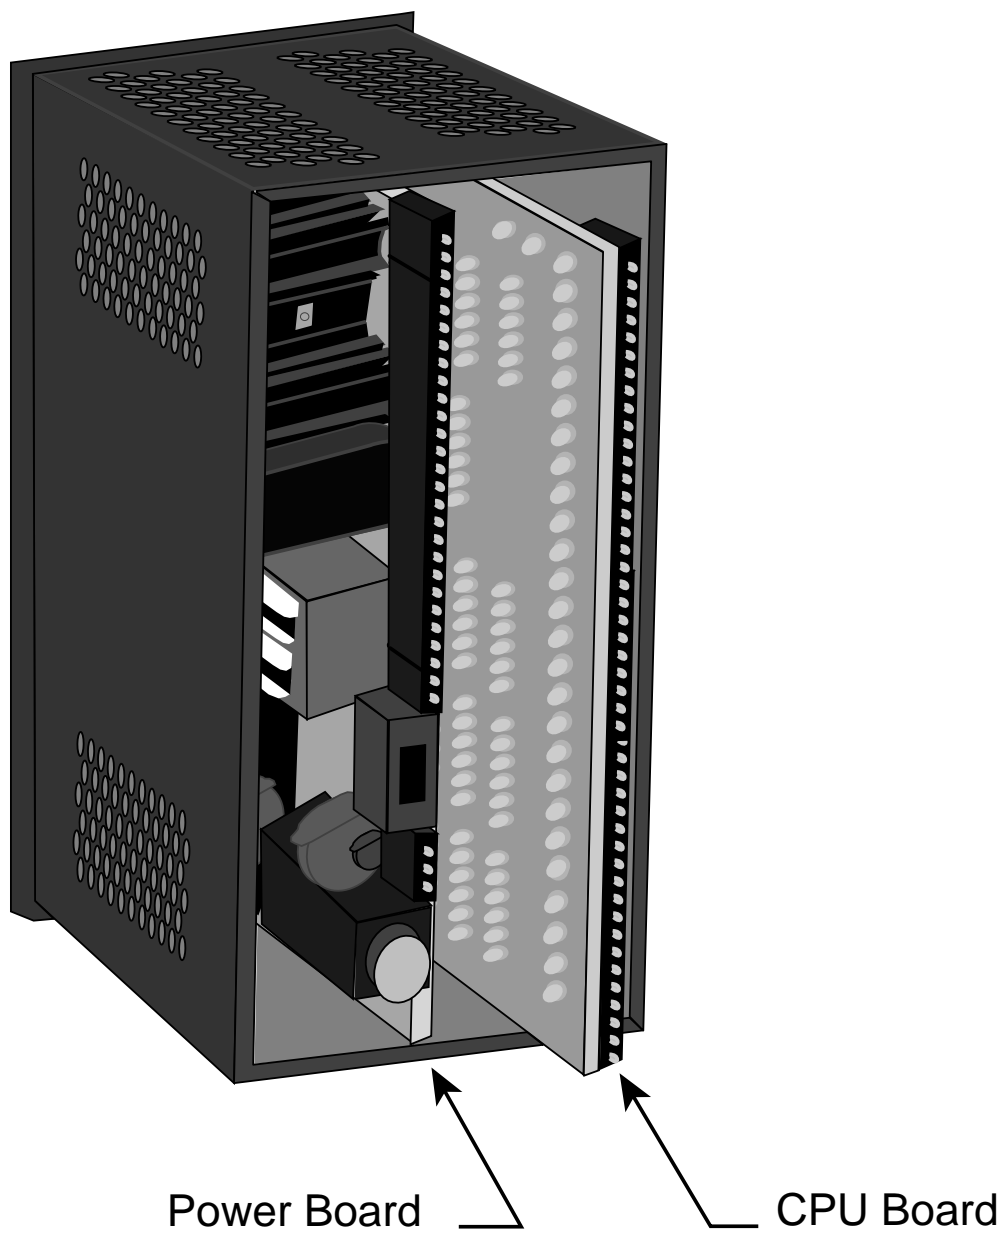

Figure 32 Removing the CPU Board
- 6) Remove the CPU Board carefully - pull the CPU board straight out so that you do not bend the card guides or the CPU board, nor damage the internal backplane card-edge connector. See figure 32.